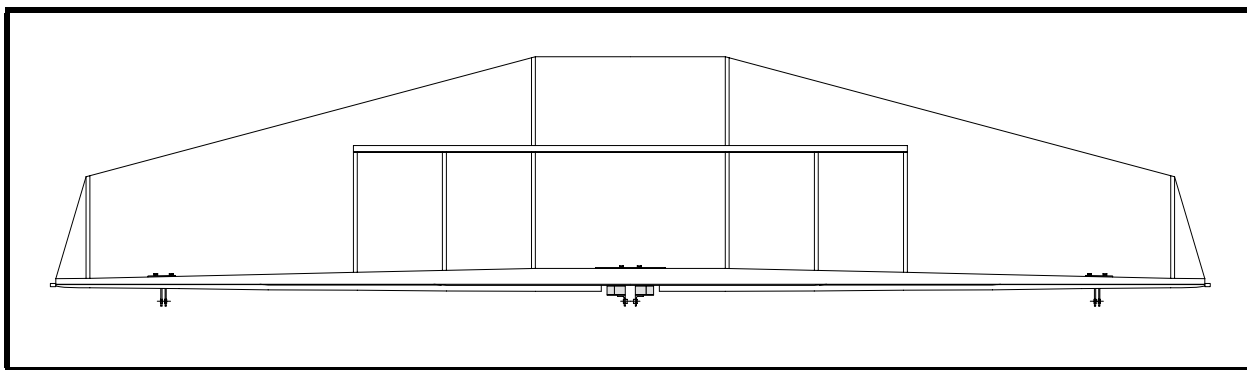

Figure 7
- ☐ Fit the leading edge rib for Sta. 1 and 6 (P/N 404-5 and 405-11) in place. These ribs must be placed very accurately, since they will be used to align all of the ribs in between. See Figure 7.
- ☐ Stretch a string across the ribs at Sta. 1 and 6. This is to align the remaining ribs. See Figure 7.